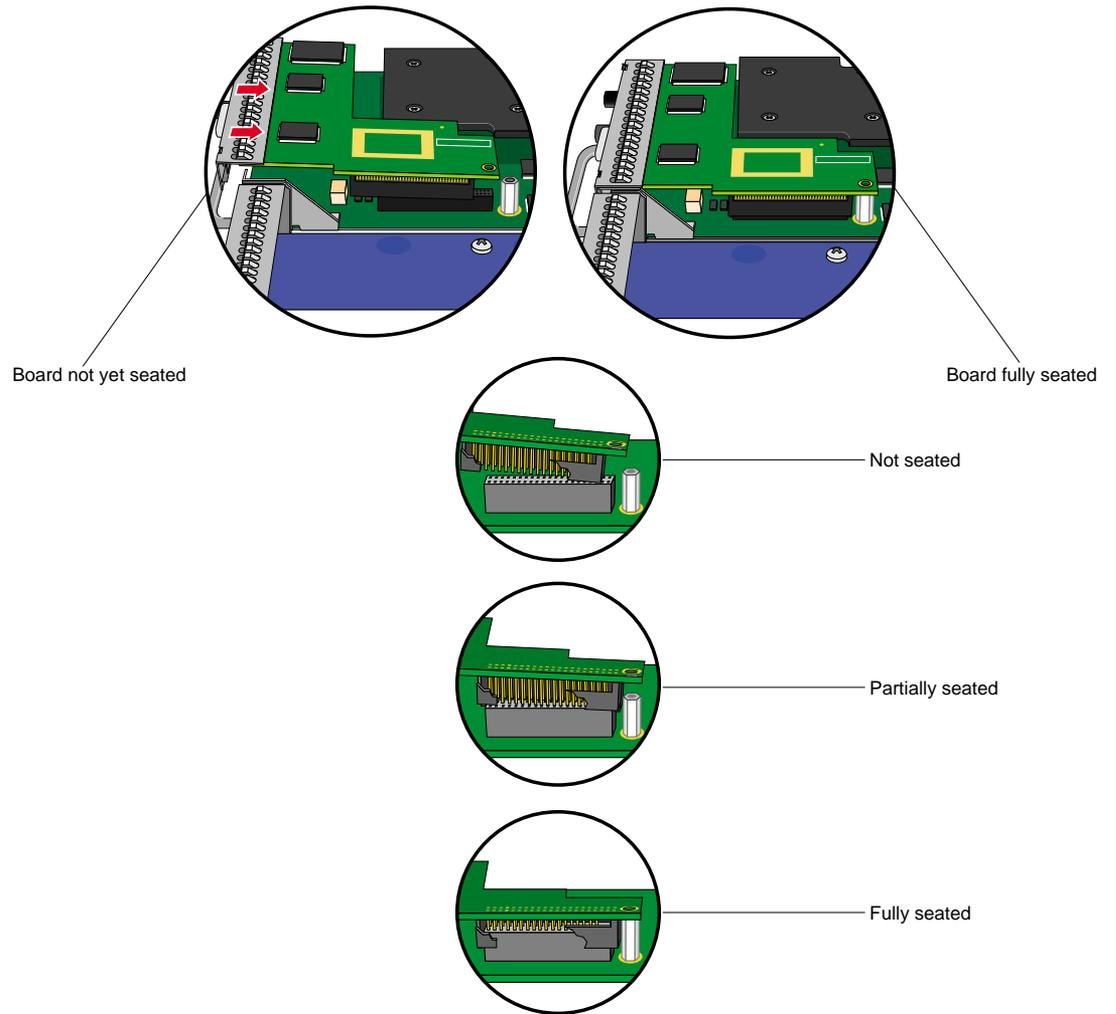

Figure 1-17 Seating the Display Option Board On the VPro Graphics Board (side view)
- Press down on the top of the Display Option Board I/O panel to fully seat its locator slots over the VPro Graphics Board locator tabs (B).
- Press down gently on the area above the Display Option Board connector to make sure it is fully seated (C). See Figure 1-17 for a side view seating of the board.
Figure 1-17 shows a side view seating of the board.